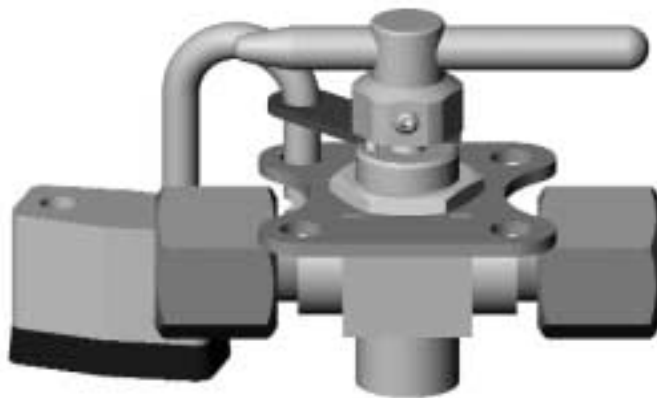

Figure 2
- 5.) Lock plate holes will accommodate 1/4 in. (6.4 mm) to 5/16 in. (7.9 mm) lock shackle diameter and 3/4 in. (19.0 mm) minimum shackle length (Figure 2).